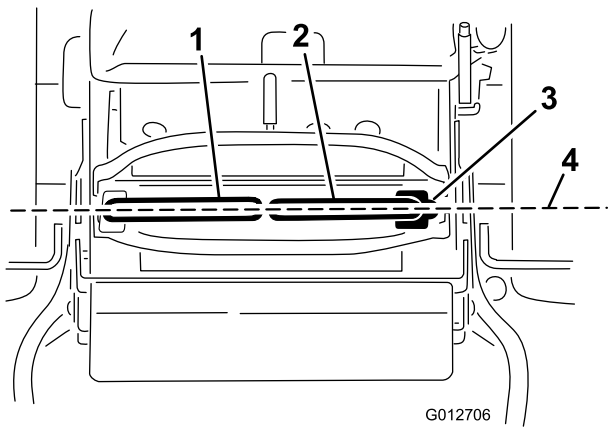

Figure 70
Important: Ensure that the tracking of the mower is correct after adjusting the motion-control levers. Adjusting the tracking and aligning the motion-control levers front to back is the same procedure (Figure 70).
1. After you finish the horizontal alignment, check the front-to-back alignment by slightly pushing the motion-control levers forward to take up any slack in the linkage for the control levers (Figure 70).